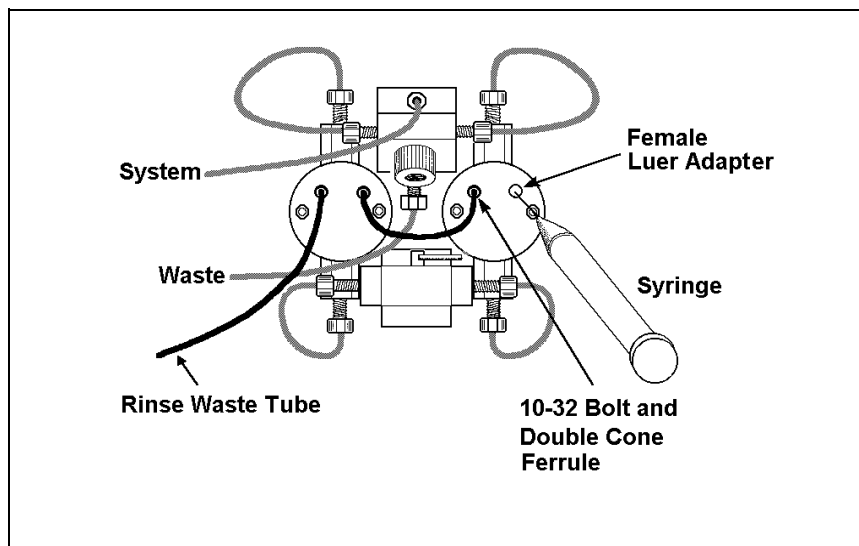

Figure 3-6. Rinsing the Pump Heads
1. Open the lower pump door and locate the two rinse ports on the front of each of the pump heads. Either port can be used for rinsing. Figure 3-6 shows the typical rinse port connections.